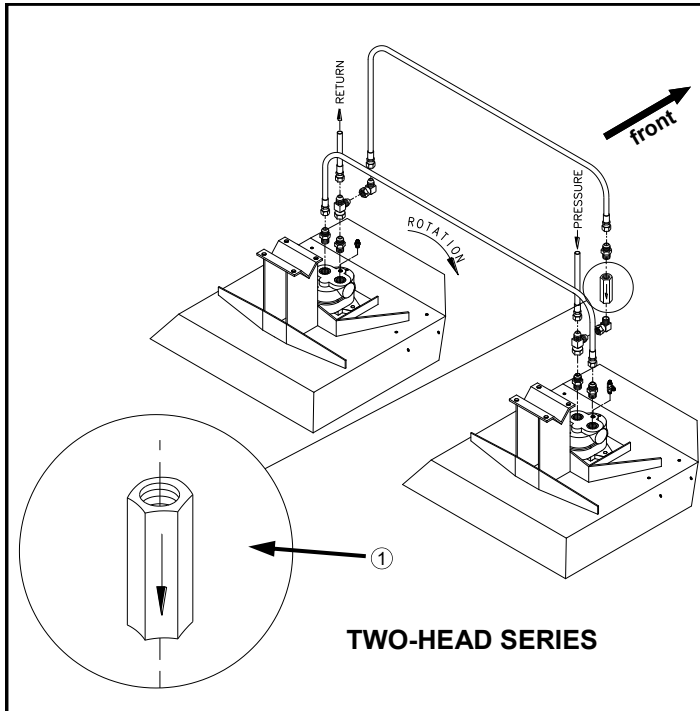
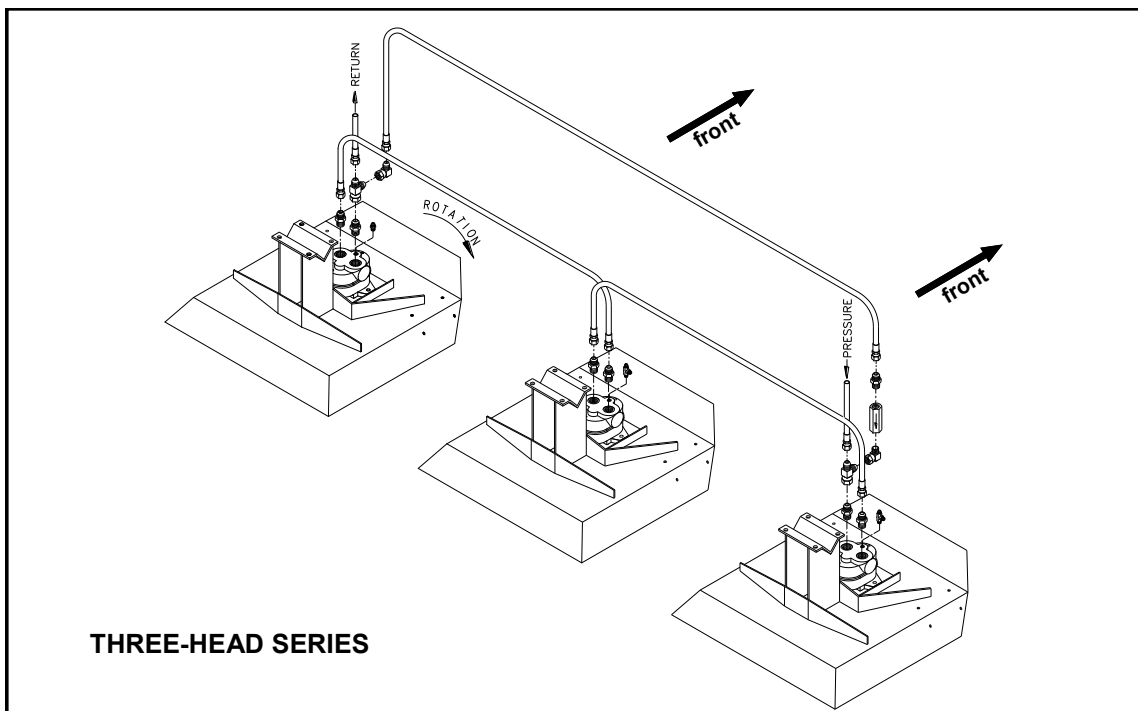

FIG 4.25
FIG 4.26
Hydraulic hoses on cutter heads should be hooked up so blades on heads mounted right of operator rotate according to figure 4.25 and figure 4.26 (clockwise from above). Refer to 204 & 204SP DETASSELER Parts Manual for correct hardware, hose lengths, and hydraulic schematic.
Care should be taken when installing check valve (fig. 4.25, item 1) on cutter motor so the flow arrow is oriented correctly (either two-head or three-head series).